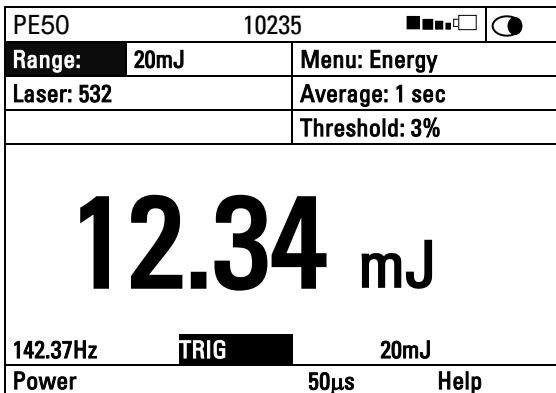

Figure 6.1
1. Ordinarily, when the instrument is switched on, it is in the main energy measurement mode. This can be verified by the units of mJ, μ J etc. and the legend “energy” in the upper right corner of the display. (See Figure 6.1). If it is in power measurement mode with units of mW, W etc., then press “energy”.
Besides the usual range, laser, average information, the Nova II also displays the frequency of the laser as shown in Figure 6.1.